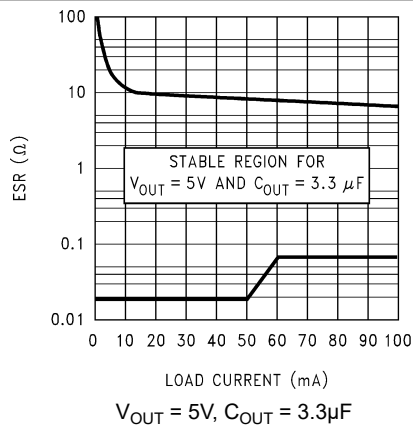
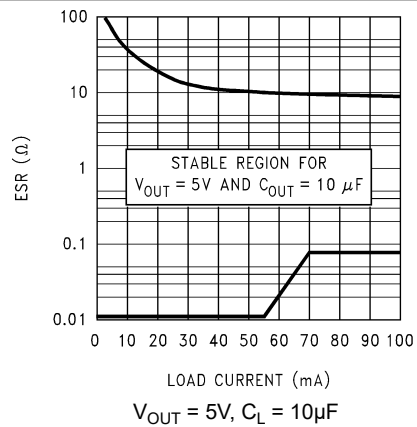
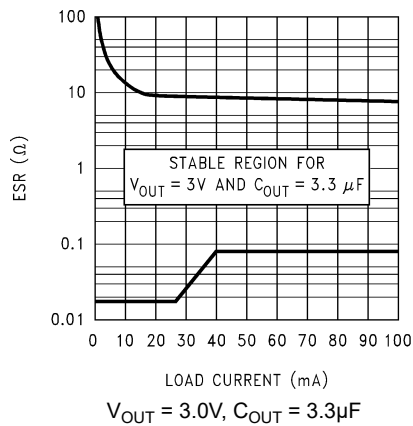
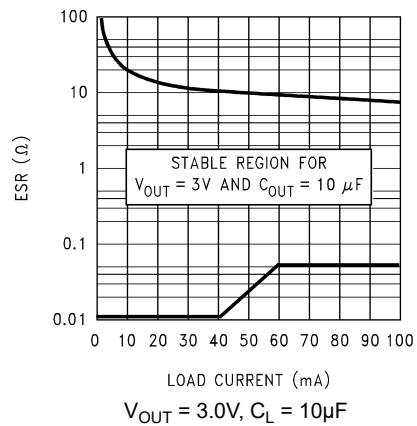

Figure 7-3. 5V, 3.3µF ESR Curves (Legacy Chip)
Figure 7-4. 5V, 10µF ESR Curves (Legacy Chip)
Figure 7-5. 3.0V, 3.3µF ESR Curves (Legacy Chip)
Figure 7-6. 3.0V, 10µF ESR Curves (Legacy Chip)
The output capacitor must meet both the requirement for minimum amount of capacitance and equivalent series resistance (ESR) value. Curves are provided that show the allowable ESR range as a function of load current for various output voltages and capacitor values (see Figure 7-3, Figure 7-4, Figure 7-5, and Figure 7-6).
- ESR range: See Figure 7-3, Figure 7-4, Figure 7-5, and Figure 7-6.